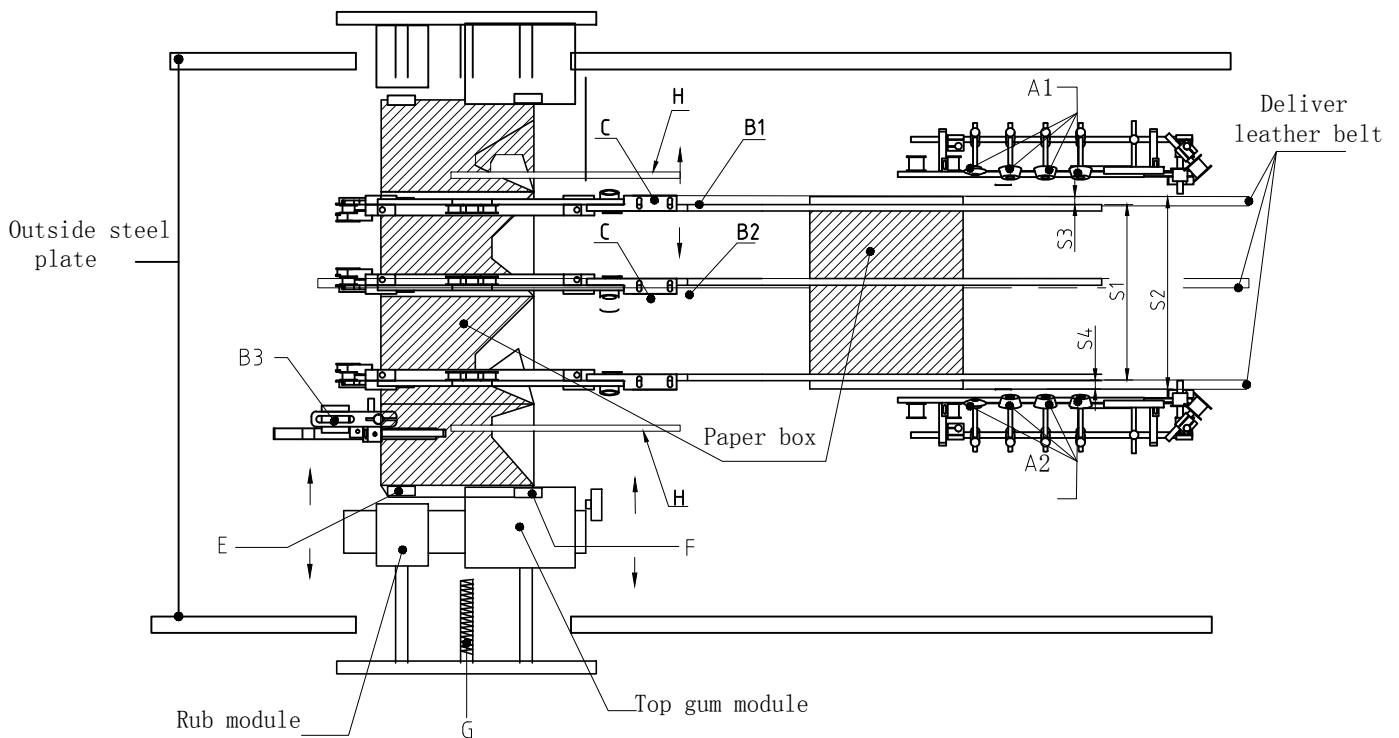

Fig 4-2
- ② After the initial adjustment of forming knife (B) with the conveying base, it can also be delicately adjusted on the knife handle bracket (the width of two knives should be 2-3mm smaller than the formed paper box). That is  $S2-S2=2-3\text{mm}$ ,  $S3=S4$  in the Fig.4-2. Auxiliary subassemblies (A) assists at one side of the forming belt, to pressurize appropriately to change the natural status of the belt, adjust the different status of the belt according to the situation of the paper box. Assisting formation would be much better. Adjustment of grinding and pasting subassembly: turn the lead screw (G) to grind the whole subassembly of pasting movably. The grinding wheel and pasting wheel should aim at and work on the to-be-paste part of the paper box.